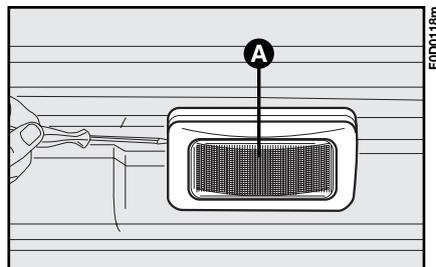

fig. 31
1) Remove the clipped-on lens **A**-fig. 31 with a screwdriver as shown in the figure.